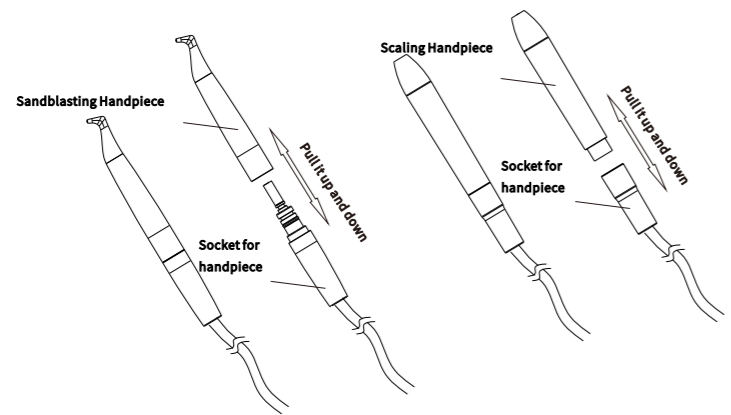

Figure 4
3) Insert the blasting handpiece into the blasting handpiece base. (See figure 4)